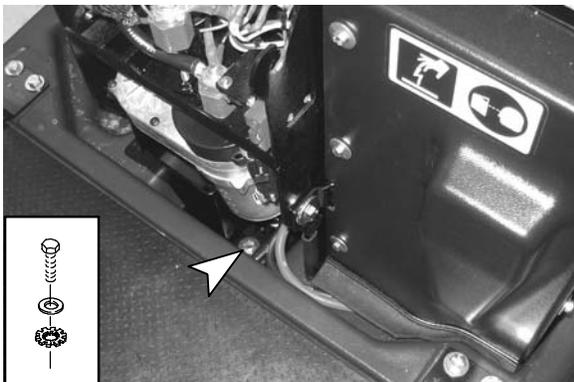

Fig. 6
9. Remove one of the two bolts and flat washers used to mount the actuator bracket to the main frame. Place one of the star washers from the kit under the flat washer and place back onto machine. To ease reassembly use super glue to hold the hardware in place (Figure 6).